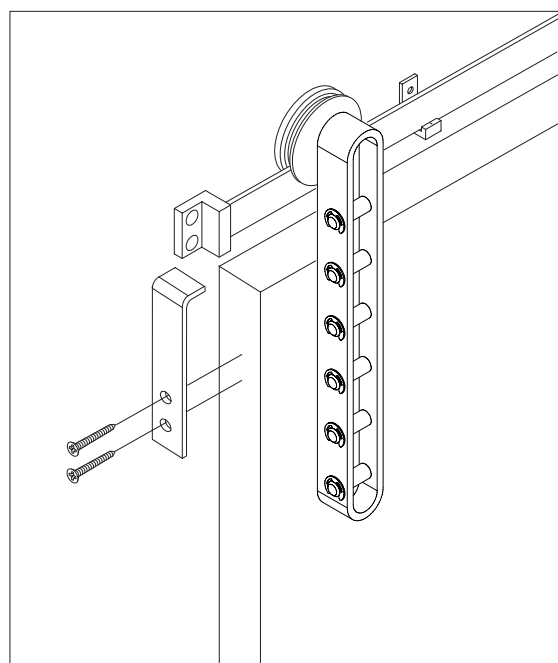

Figure 16
22. Install the bracket to the door edge with 2 phillips screws (provided) using a drill with a phillips bit (Figure 16).